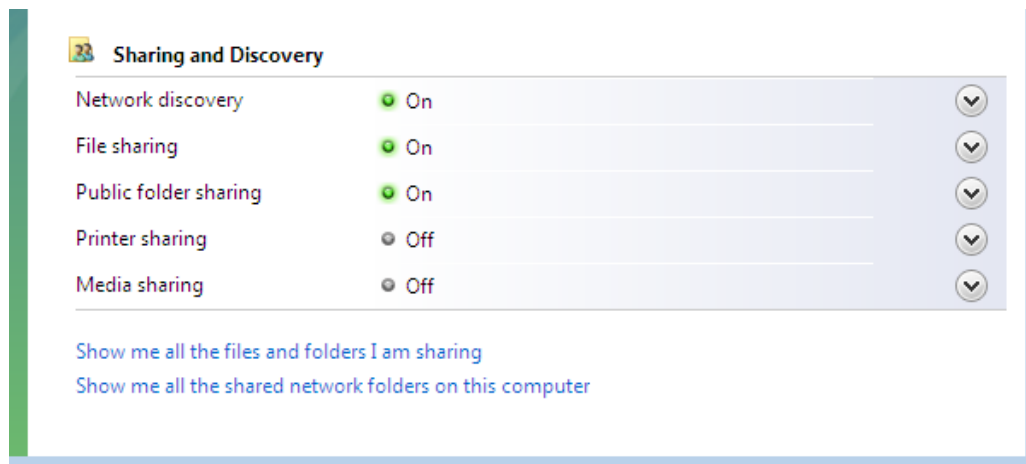

Figure 22: Sharing and Discovery Window
2. In the Sharing and Discovery area, ensure that the first three items are on, as illustrated in Figure 22.